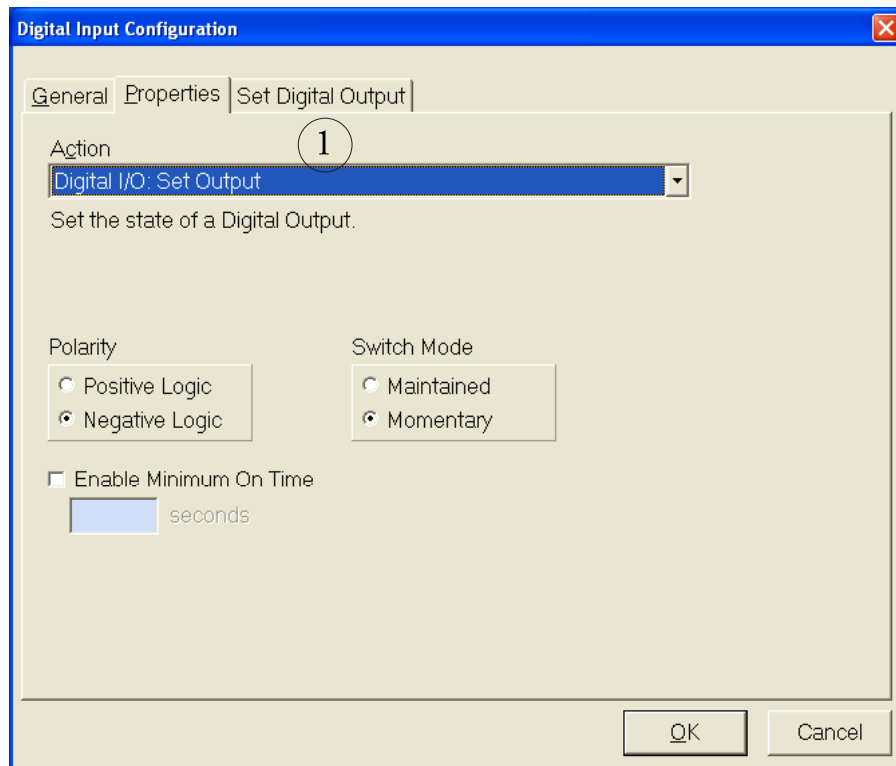

Figure 31. Digital Input Configuration panel—Digital I/O: Set Output
- 1.2 For action select Digital I/O: Set Output (*Part 1 in Figure 31*).